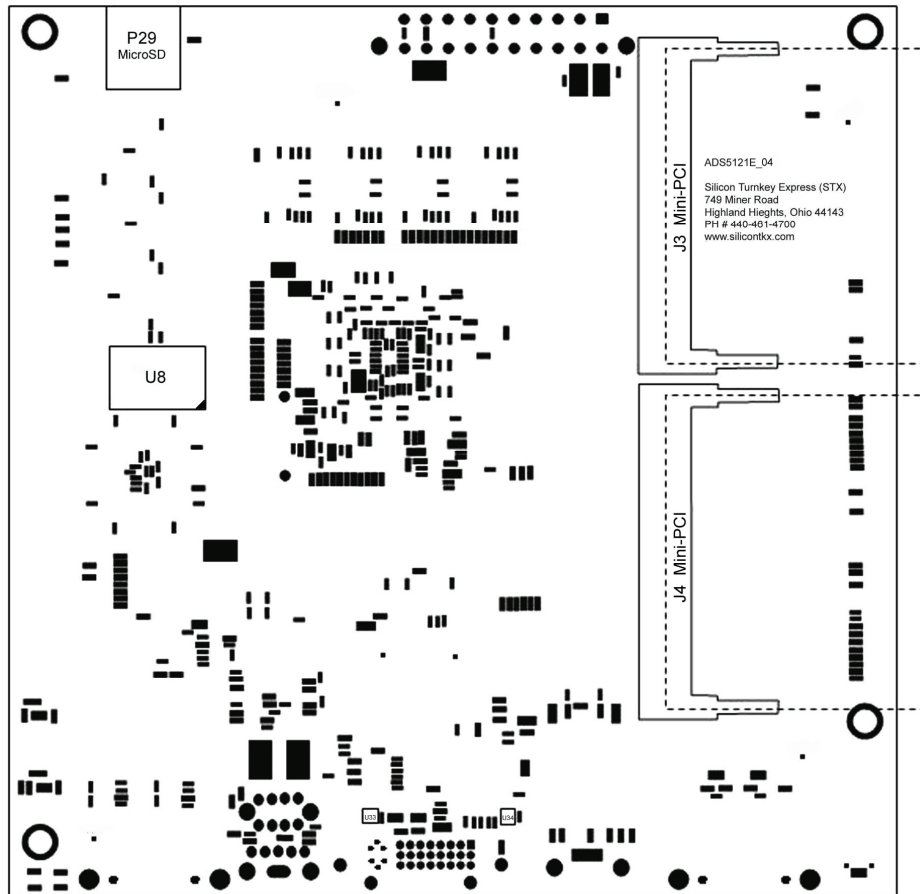

Figure 3 – ADS512101 Bottom Board Layout
(See Figure 3)
1.1.39 P29 – Micro-SD Socket (See Figure 3)